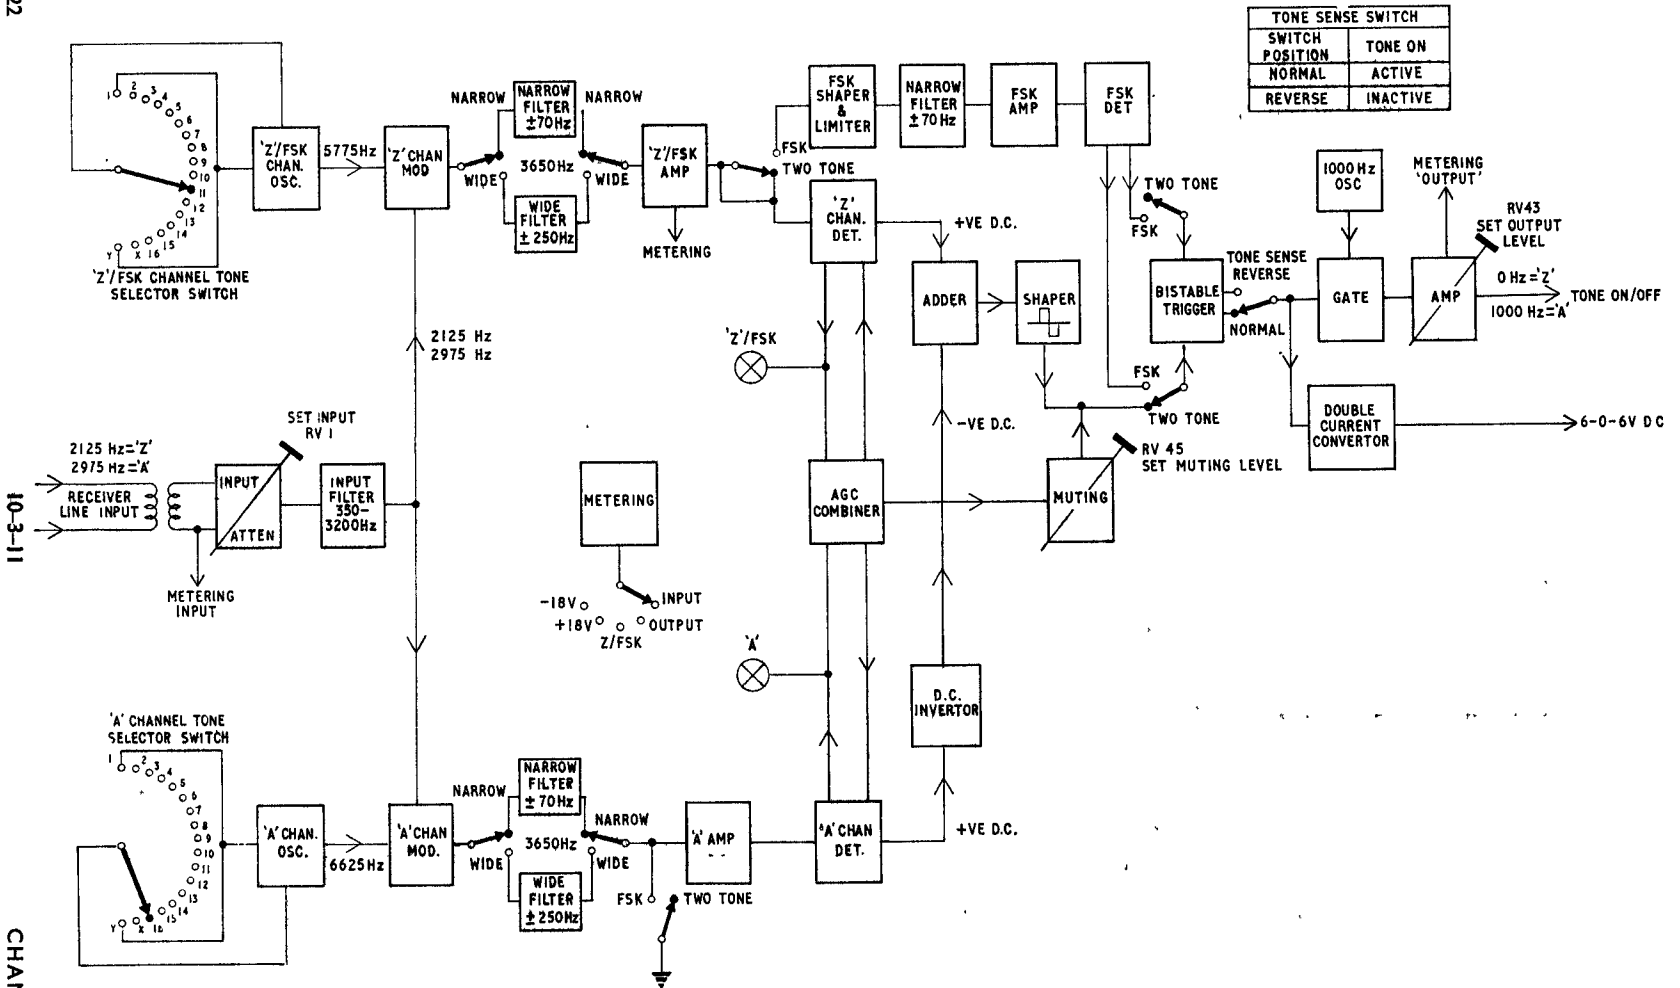

FIG. 10. TERMINAL TELEGRAPH VOICE FREQUENCY (BROADCAST) - (TT20)
1. Introduction. The Terminal Telegraph Voice Frequency (Broadcast) comprises two receiver units type TT20 with a common twin-power-supply unit housed in a single cabinet suitable for rack mounting. Each receiver TT20 forms part of a single teleprinter channel accepting either a pair of consecutive tones or frequency shift keyed tones. These are converted to either an on-off keyed 1000 Hz tone or a keyed low-level d.c. of 6–0–6V d.c. Each TT20 contains an A and a Z channel, each of which can be set to respond to any input tone of 18 available channels. It permits low level a.f. signalling to be adopted between a receiver terminal and the teleprinter operating position, thereby obviating the transient interference that may be induced in neighbouring circuits by d.c. signalling. The equipment is designed for connection into 600-ohm lines and will accommodate keying speeds of up to 75 bauds. A test meter is provided in each receiver unit TT20 to check supply voltages from the common power supply unit as well as the signal input and output levels. The TTVF(B) is fully transistorised.
a. The block diagrams in figures 10 and 11 show the various stages employed in the circuit. The receiver can be operated in the Two-Tone mode in which case both A and Z channels are used, or in the FSK mode when only the Z channel is used. Although several of the stages are common to both modes, it is convenient to consider them separately in this general explanation.